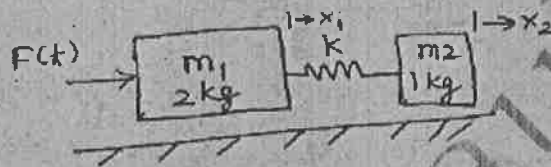

Fig. 2
11. (a) (i) Explain the features of closed loop feedback control system. (4)
- (ii) Derive the transfer function of system shown in fig. 2. (12)